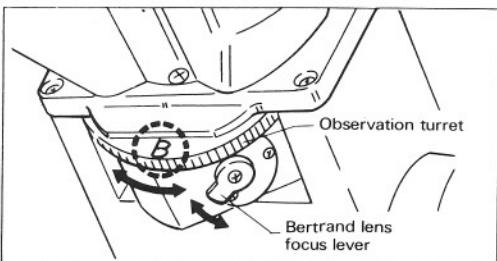

Fig. 33
- By turning the turret, the markings [O], [B], [C] and [M] will show up one after another. (Fig. 33)
For focusing the Bertrand lens, turn its focus lever, as shown in Fig. 33.